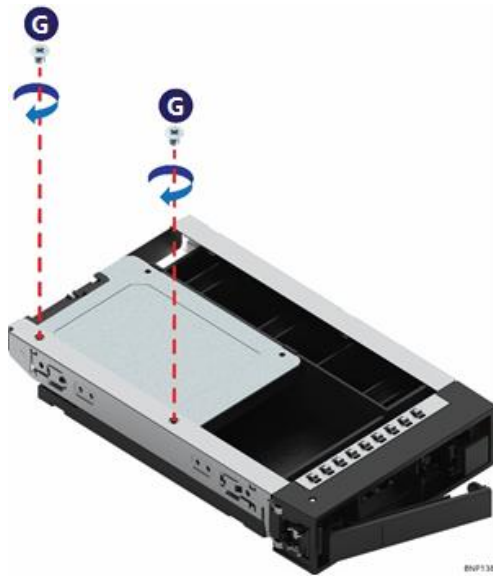

Figure 35. Secure 2.5" SSD Assembly to Drive Carrier
5. Turn the drive carrier assembly over and secure the SSD assembly to the drive carrier (see Figure 35)